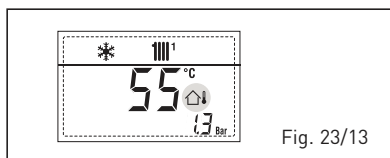

Fig. 23/13
– **INTERVENTO TERMOSTATO SICUREZZA PRIMA ZONA MISCELATA “ALL 20”** (fig. 23/14)